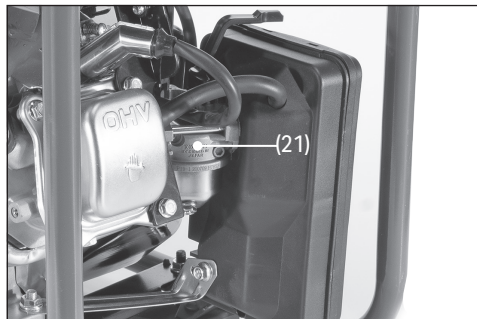

Fig. 9
7. Then loosen the carburettor (21) drain bolt (see Fig. 9) and open the fuel tap (10). Allow the fuel to drain into a suitable container. **Take care not to unscrew the bolt underneath as this will release the carburettor.**